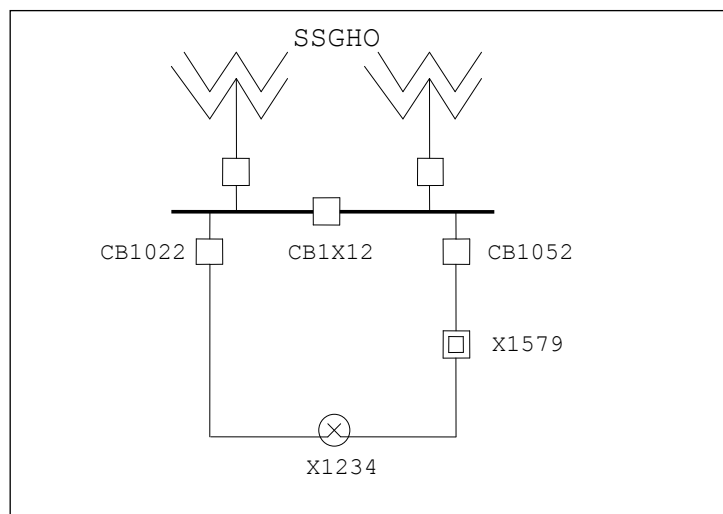

figure 2.13.2
- If paralleling is done that has recloser(s) in the circuit, then the SEF at the recloser(s) shall be disabled (see example 2 figure 2.13.2)